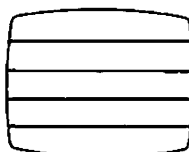

Fig. 1
- The noise as shown in Fig. 1 or Fig. 2 appears during cue or review playback.